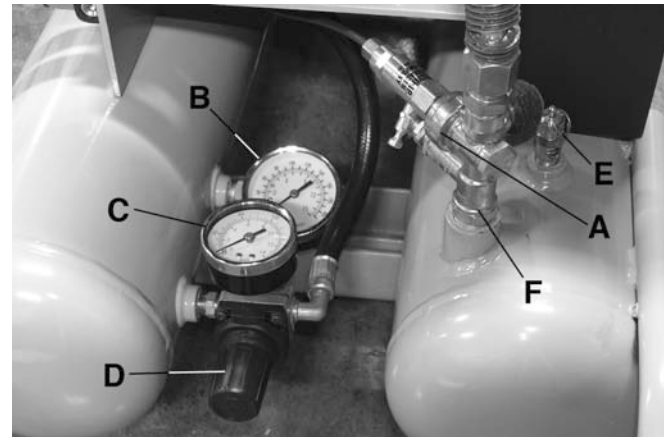

FIGURE 3
THROTTLE UNLOADER (A) FIG.3. The throttle unloader automatically slows down the engine to idle speed when the air tank pressure reaches the factory set “Cut-Out” pressure (maximum pressure). When the tank pressure drops below the factory set “Cut-In” pressure, the engine will automatically accelerate and the compressor will pump additional air into the air tanks.
TANK PRESSURE GAUGE (B) FIG. 3. The tank pressure gauge indicates the reserve air pressure in the air tanks.
OUTLET PRESSURE GAUGE (C) FIG.3. The outlet pressure gauge indicates the air pressure available at the outlet side of the regulator. The pressure is controlled by the regulator and is always less than or equal to the tank pressure.
REGULATOR (D) FIG.3. The air pressure coming from the air tanks is controlled by the regulator. To unlock the regulator, pull it outwards then turn the regulator knob clockwise to increase pressure or counterclockwise to decrease pressure. To avoid minor readjustment after making a change in the pressure setting, always approach the desired pressure from a lower pressure. When reducing from a higher to a lower setting, first reduce the pressure less than that desired, then bring it up to the desired pressure. Depending on the air requirements of each particular accessory, the outlet regulated air pressure may have to be adjusted while operating the accessory.
ASME SAFETY VALVE (E) FIG. 3. The safety valve protect against over-pressurization by “popping out” at its factory set pressure of 150 PSI.
CHECK VALVE (F) FIG.3. When the air compressor is operating, the check valve opens, allowing compressed air to enter the air tanks. When the air compressor reaches its “Cut-Out” pressure, the check valve closes, allowing air pressure to remain inside the air tanks.
- 2) Pull ring on safety valve (E) Fig.3, allowing air to bleed from the tank until tank pressure is approximately 20 PSI. Release safety valve ring.
NOTE: If a drain valve is plugged, pull ring on safety valve (E) Fig.3, and hold until all air pressure has been released. The valve can then be removed, cleaned, and reinstalled.